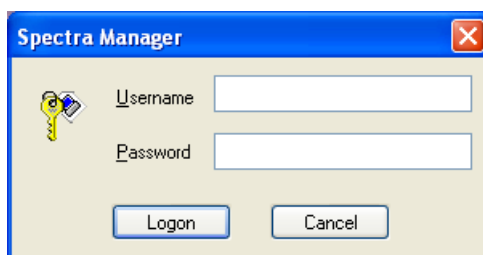

Figure 2.1 Logging on to Spectra Manager CFR
- (1) Select [Program] - [JASCO] - [Spectra Manager] from the *Windows* [Start] menu or double-click the [Spectra Manager] icon on the *Windows* desktop. The following dialog box is displayed (Fig. 2.1).